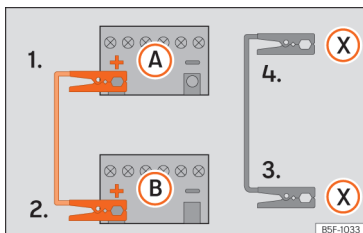

Fig. 44 Diagram of connections for vehicles with Start-Stop system.
- 4b. *In vehicles with a Start-stop system:* connect one end of the *black* jump lead (X) to a suitable ground terminal, to a solid piece of metal in the engine block, or to the engine block itself » » Fig. 44.
5. Connect the other end of the *black* jump lead (X) to a solid metal component bolted to the engine block or to the engine block itself of the vehicle with the flat battery. Do not connect it to a point near the battery (A).